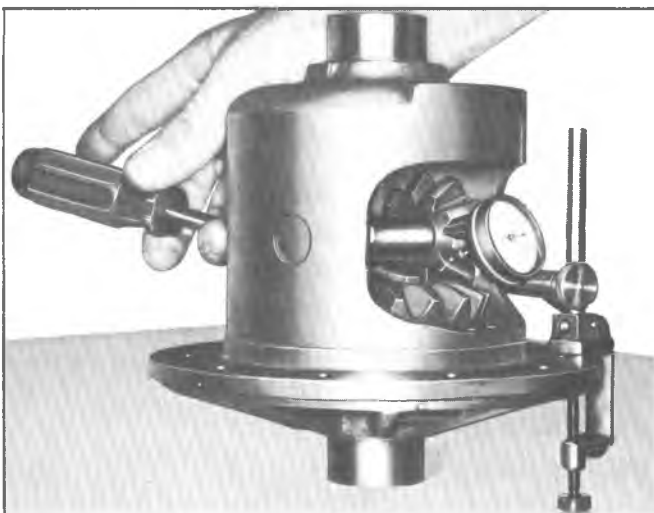

Fig. 11D—Measuring Pinion Gear Tooth Clearance
8. Install dial indicator in case so that contact button rests against pinion gear as shown in Figure 11D.
9. Compress clutch pack, using a screwdriver as shown in Figure 11D. Move the pinion gear to obtain tooth clearance.